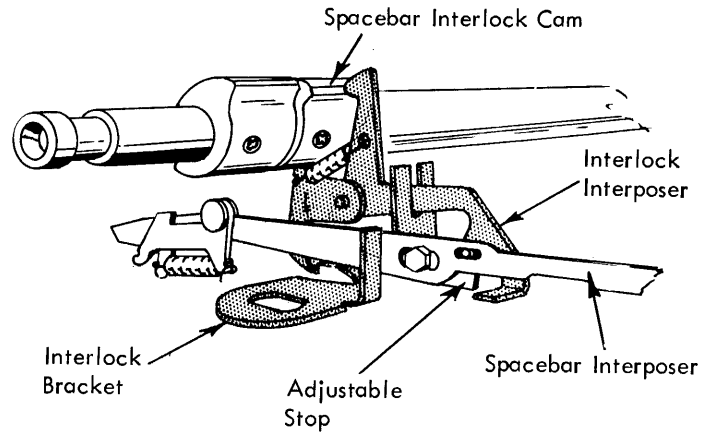

FIGURE 196. Spacebar Interlock Mechanism (Late Style)
- a. With the machine latched at rest adjust the spacebar interlock cam radially on the filter shaft so that the tip of the interlock interposer rests on the high point of the cam (Fig. 196).